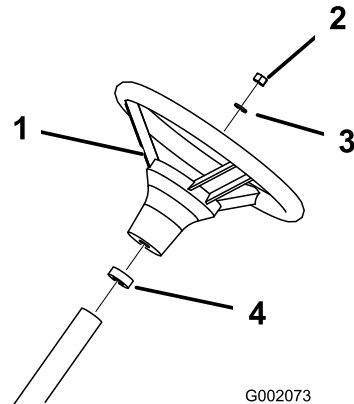

Figure 4
3. Secure the steering wheel to the shaft with the nut (Figure 4). Torque the nut to 18-22 ft-lb (24-29 N·m)